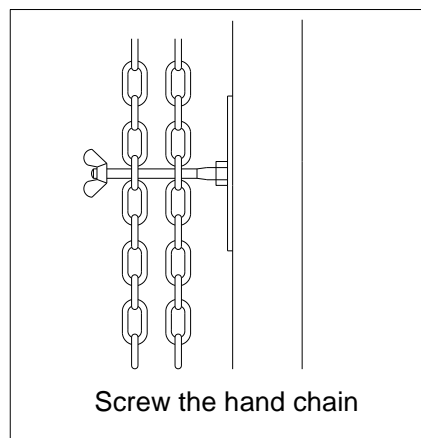

Fig.4
- It is recommended to fix the lower part of the chain as shown in Fig.4, to avoid hindrance to people and equipment move.